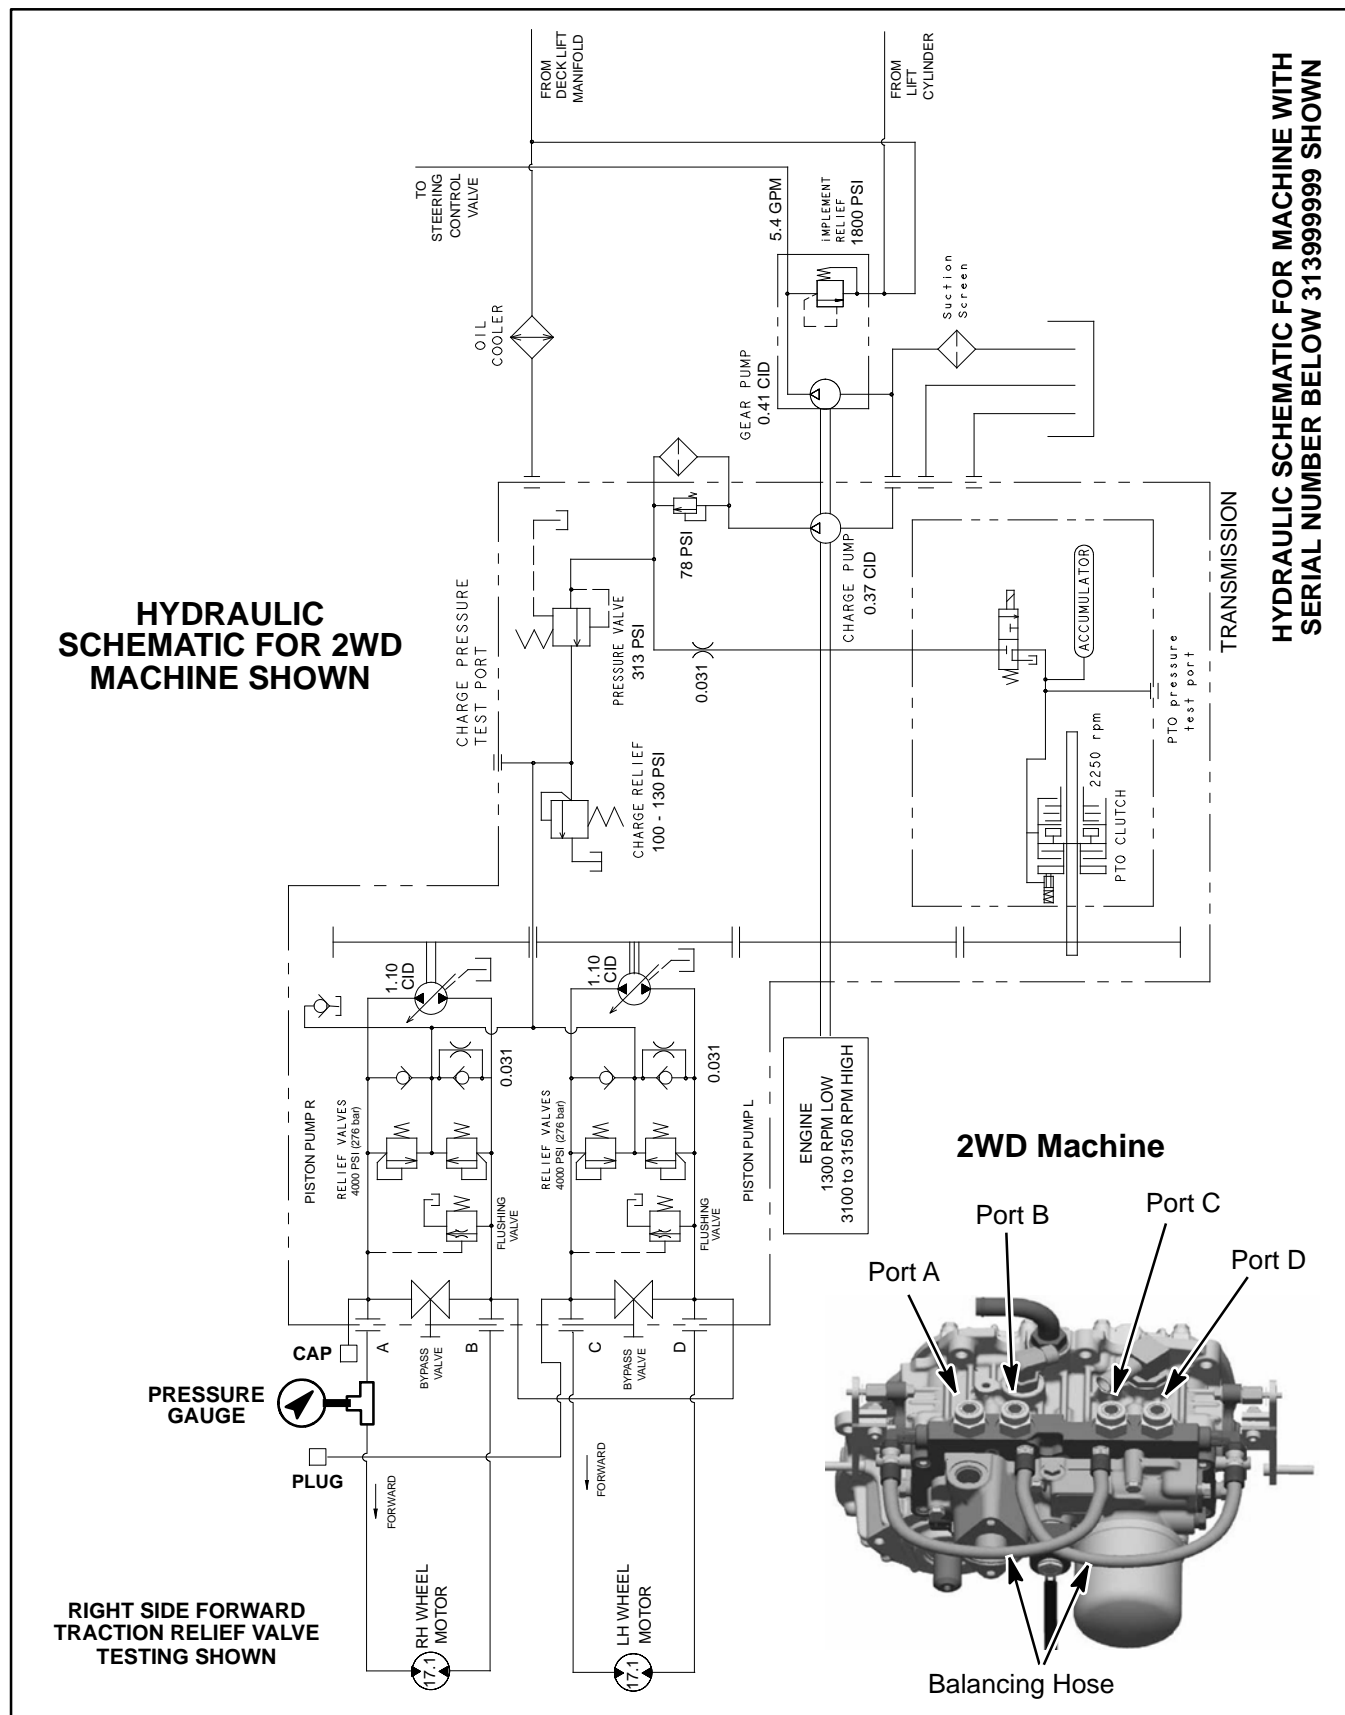

Figure 28
4. Thoroughly clean area surrounding traction circuit hoses on top of transmission (Fig. 28 or 29).
5. Determine which traction relief valve is to be tested. Disconnect hydraulic hose from transmission pump outlet fitting for relief valve to be tested (Fig. 28 or 29):
NOTE: Pump outlet ports are not identified on the pump housing. Use illustration in Figure 28 (2WD machine) or 29 4WD machine) to identify pump ports.
7. Disconnect balancing hose from transmission fitting closest to transmission pump outlet fitting for relief valve to be tested (Fig. 28 or 29). Install steel cap on fitting and steel plug in balancing hose.